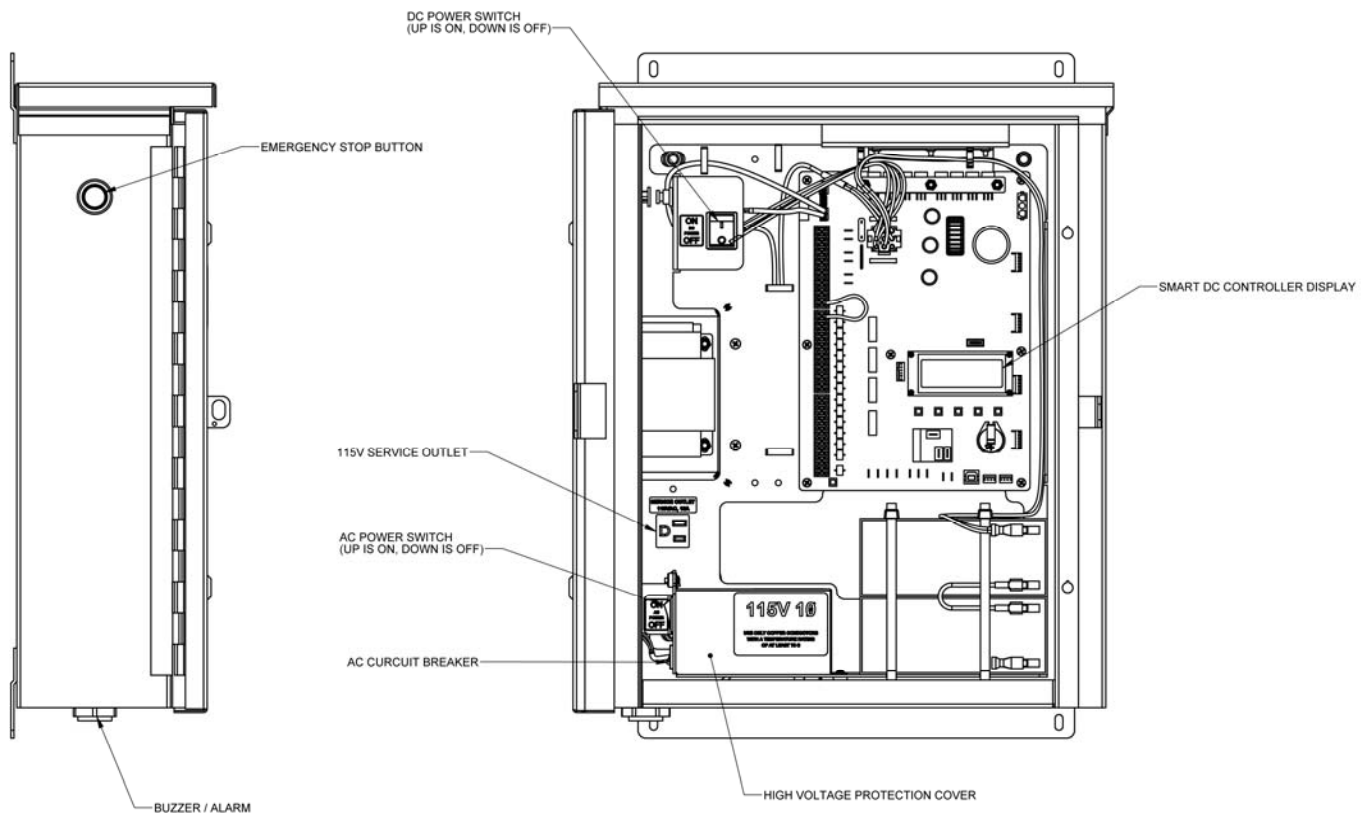

Figure 2-2.
Turn off AC power at the source (circuit breaker panel) before accessing the wires in the FoldSmart junction box. Follow facility Lock Out/Tag Out procedures. Make sure both the DC and AC power switches, on the side of the FoldSmart control box are in the off position. See Figure 2-2.
Wiring of gate systems must conform to the NEC standards and comply with all local codes. If you plan to connect to 208/230VAC power, read the WARNING in Figure 2-2. The voltage selector switch on the AC Power board must be moved to the 230V position or damage to the operator will occur and void the Limited Warranty.
2. **Access the input power wires and service outlet wires by removing the two Phillips-head screws that secure the high voltage junction box cover. See Figure 2-2.**
4. Access the input power wires by removing the two Phillips-head screws that secure the High Voltage Junction Box Cover. See Figure 2-2.